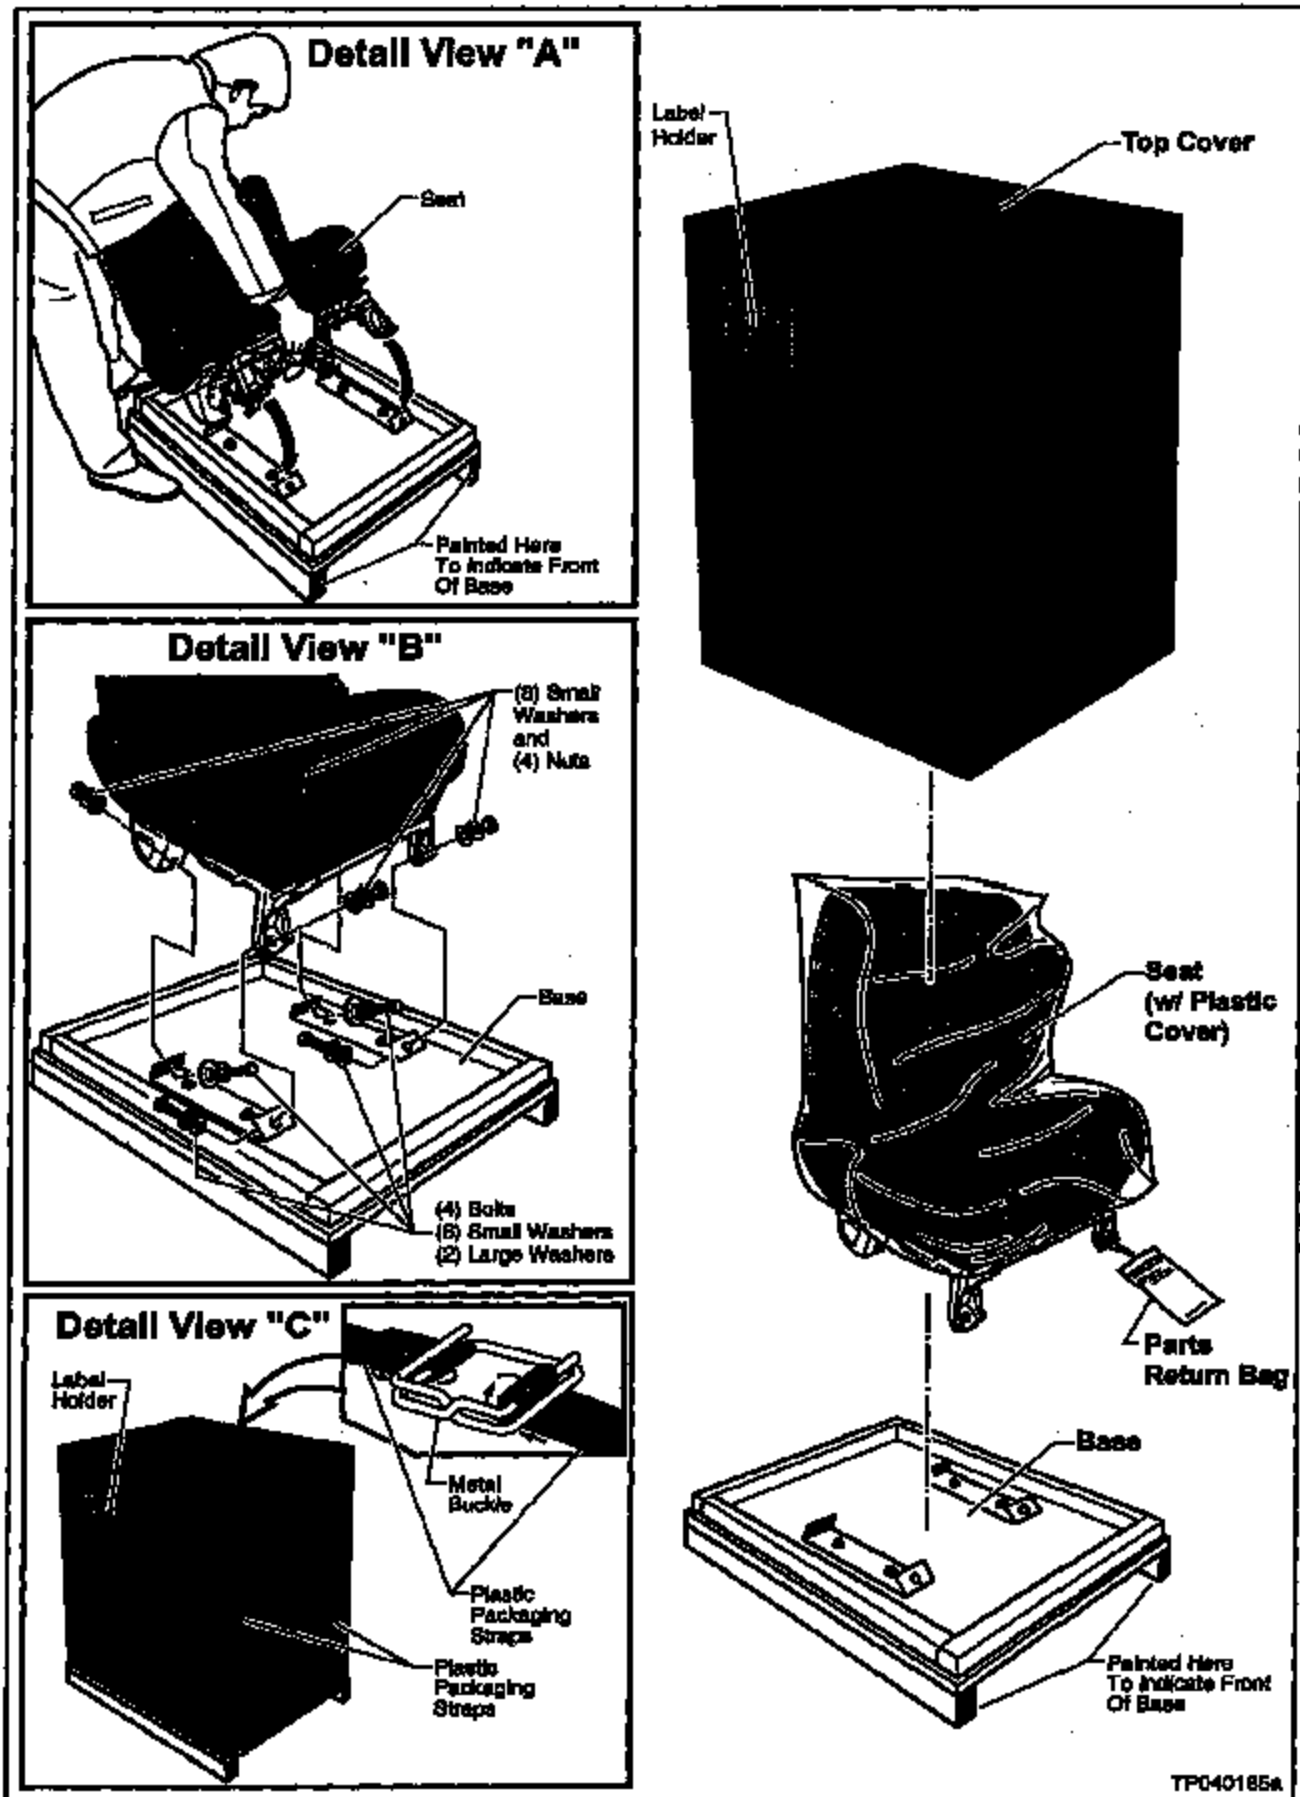

Figure 11
- **Corrugated/Plywood Seat Packaging Crate (see Figure 11)**
- b. Mount the seat to the Base of the Seat Packaging Crate with the provided nuts, bolts, and washers (see **Detail View B** in Figure 11 or 12).
- When setting the seat onto the Base, make sure you place the rear end of the seat frame onto the Base first, then lower the front end of the seat down into position (see **Detail View A** in Figure 11 or 12).
- c. Carefully install the Top Cover (see Figure 11).
- d. Tighten the Top Cover down with Plastic Packaging Straps and Metal Buckles (disposable type) so that the metal buckles are positioned on top of the Crate. See **Detail View C** in Figure 11.